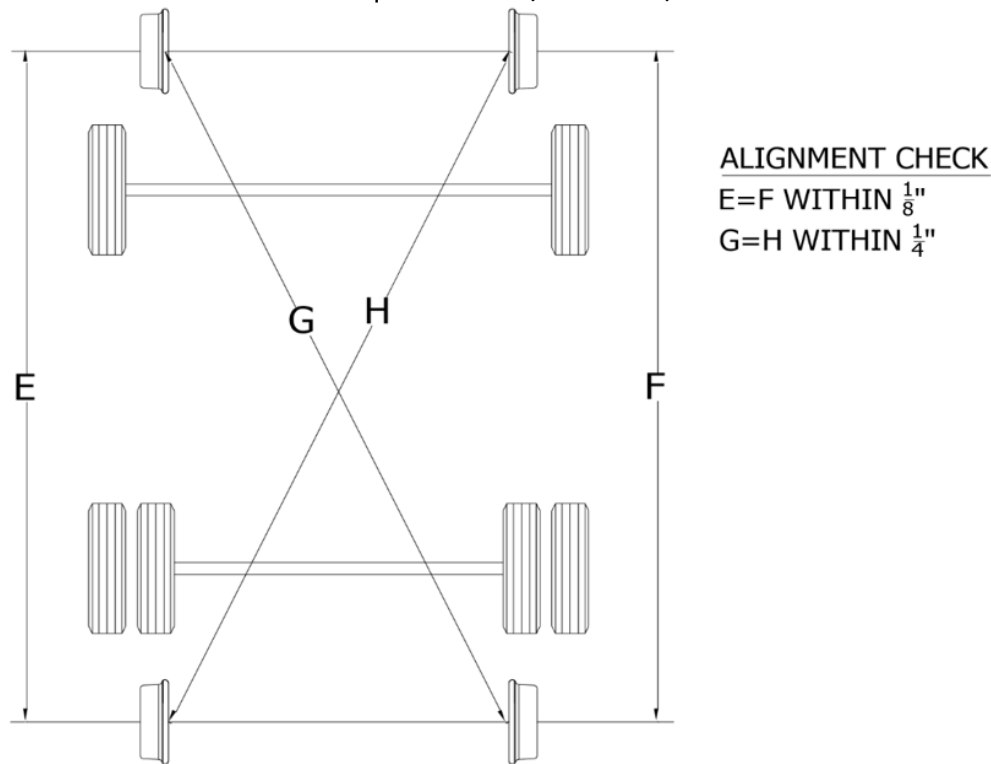

FIGURE 7-1
- (1) The distance from the Front Rail Wheel to the Rear Rail Wheel on each side in figure 7-1, distance "E" must equal to "F" (within  $\frac{1}{8}$ ").
- (2) The diagonals from the Front Rail Wheel to the Rear Rail Wheel on the opposite side.
In figure 7-1, distance "G" must be equal to "H" (within  $\frac{1}{4}$ ")